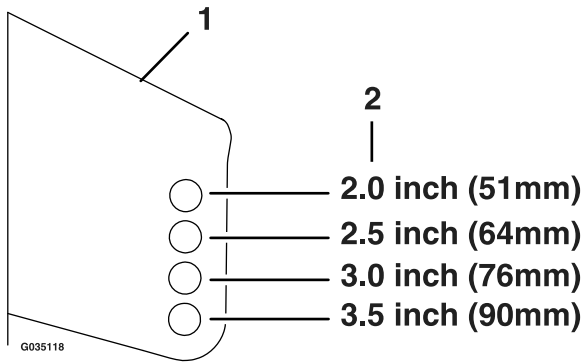

Figure 26
6. Place the rollers in one of the positions shown (Figure 26). Rollers will maintain 3/4 inch (19 mm) clearance to the ground to minimize gouging and roller wear or damage.